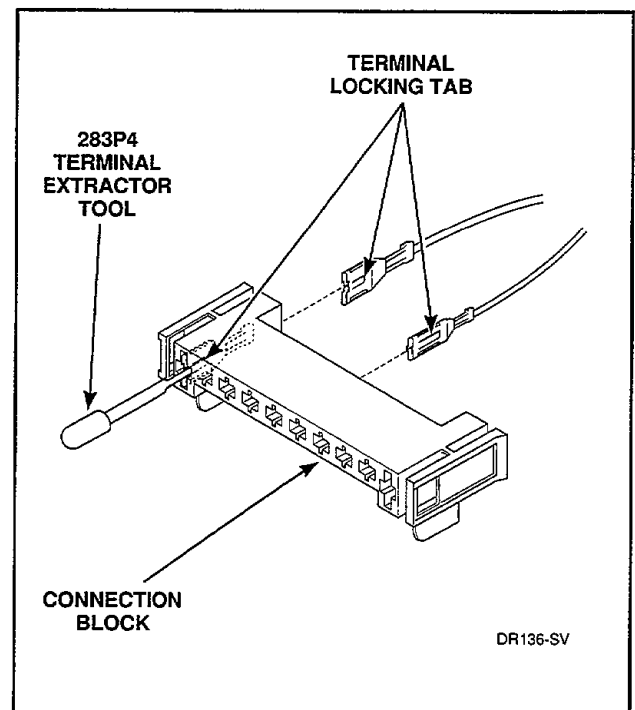

Figure 30
- (1) Remove terminals from the motor wire harness connection block using No. 283P4 Terminal Extractor Tool as follows:
- (a) Insert the tool into the block on the back of the terminal being removed, *Figure 30*.
- (b) Apply tool pressure to compress the terminal locking tab on terminal and force the terminal and wire out back side of connection block, *Figure 30*.
- (2) To install terminal in connection block, insert terminal (with wire securely crimped in place) into back side of connection block. Push terminal into connection block until locking tab on terminal spreads and holds terminal in place.